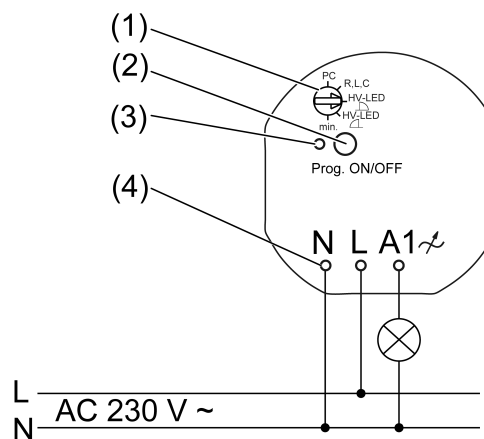

Figure 1: Connection diagram
- Connect the load according to connection diagram (Figure 1).
- Insert the actuator in the appliance box in such a way that the **Prog** button (2) and Status LED (3) are visible.